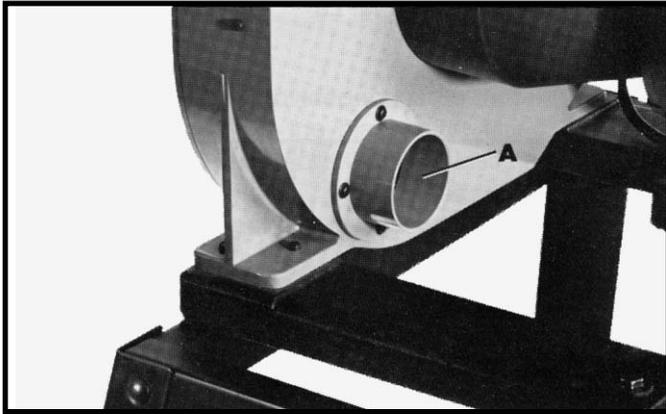
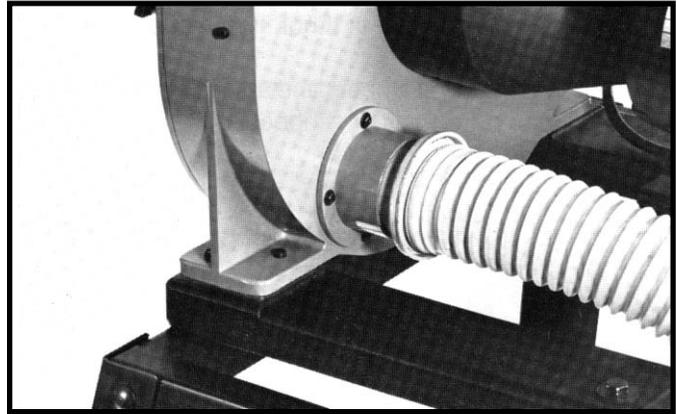

Fig. 32
Fig. 33
A dust chute (A) Fig. 32, is provided which enables you to connect your band saw to a standard shop vacuum or dust collector, as shown in Fig. 33. The opening of the dust chute is 2-1/4" I.D.